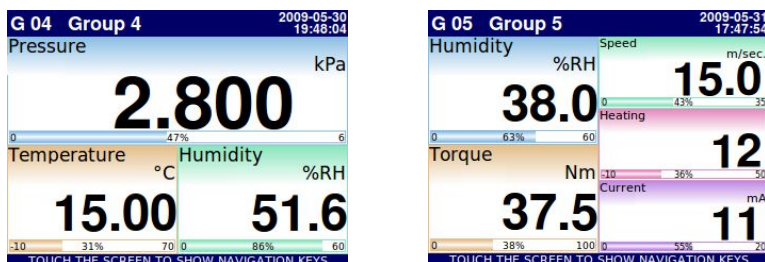

Fig. 6.9. Examples of **Numerical Values** presentation mode
All the channels of the current group are simultaneously presented in the same mode. In the current version of software there is no possibility to mix different modes in one view. Figures 6.9 ÷ 6.14 show examples of different views. Switching between visualisation modes can be performed by pressing the buttons [MODE↑] or [MODE↓] in the **Navigation bar** (see Chapter 6.3.2. **Navigation bar**). Switching between groups can be performed by pressing the buttons [GROUP↑] or [GROUP↓].
- as numerical values **Fig. 6.9**